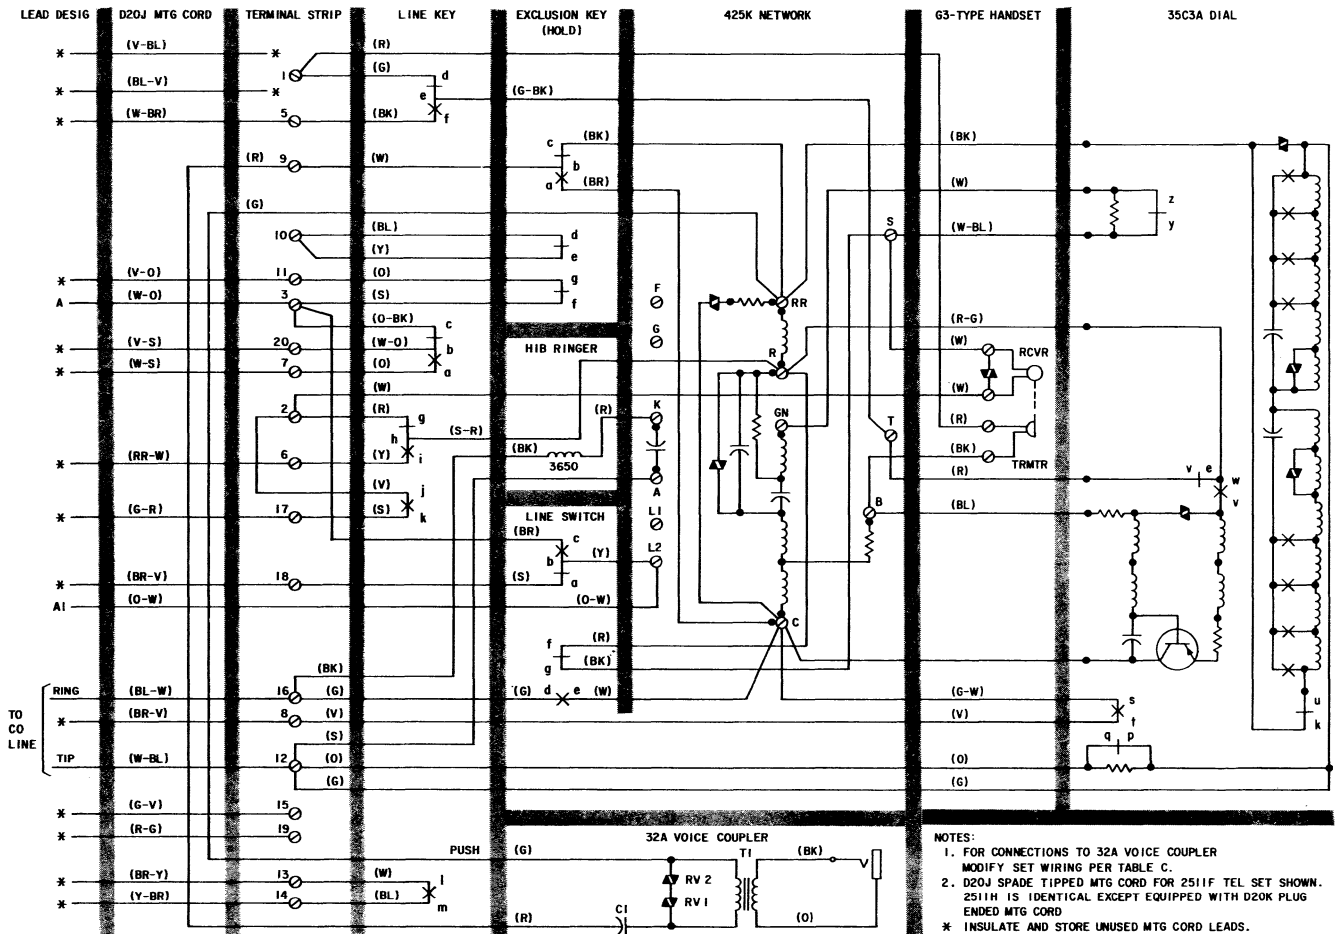

Fig. 9—2511F/H Telephone Set—Modified for Use With 32A Voice Coupler (Using Line Key to Disable Transmitter and Receiver)
Refer to Fig. 9 for connections to 32A voice coupler and to CO line. If A lead control is required, use (O-W) and (W-O) mounting cord leads to extend A1 and A to line circuit. If 3-type speakerphone is required, move (G-V) mounting cord lead to terminal strip 16 and (V-S) to 3; move (V-G) mounting cord lead and (O) dial lead to an unused terminal; then connect per appropriate connection section in Division 512.